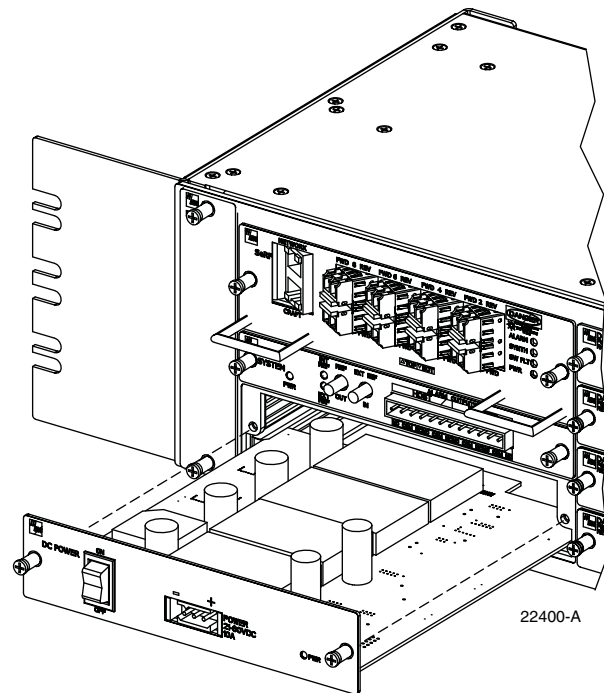

Figure 22. Power Supply Replacement
4. Loosen the two thumb screws that secure the Power Supply to the front of the HU enclosure. See Figure 22.